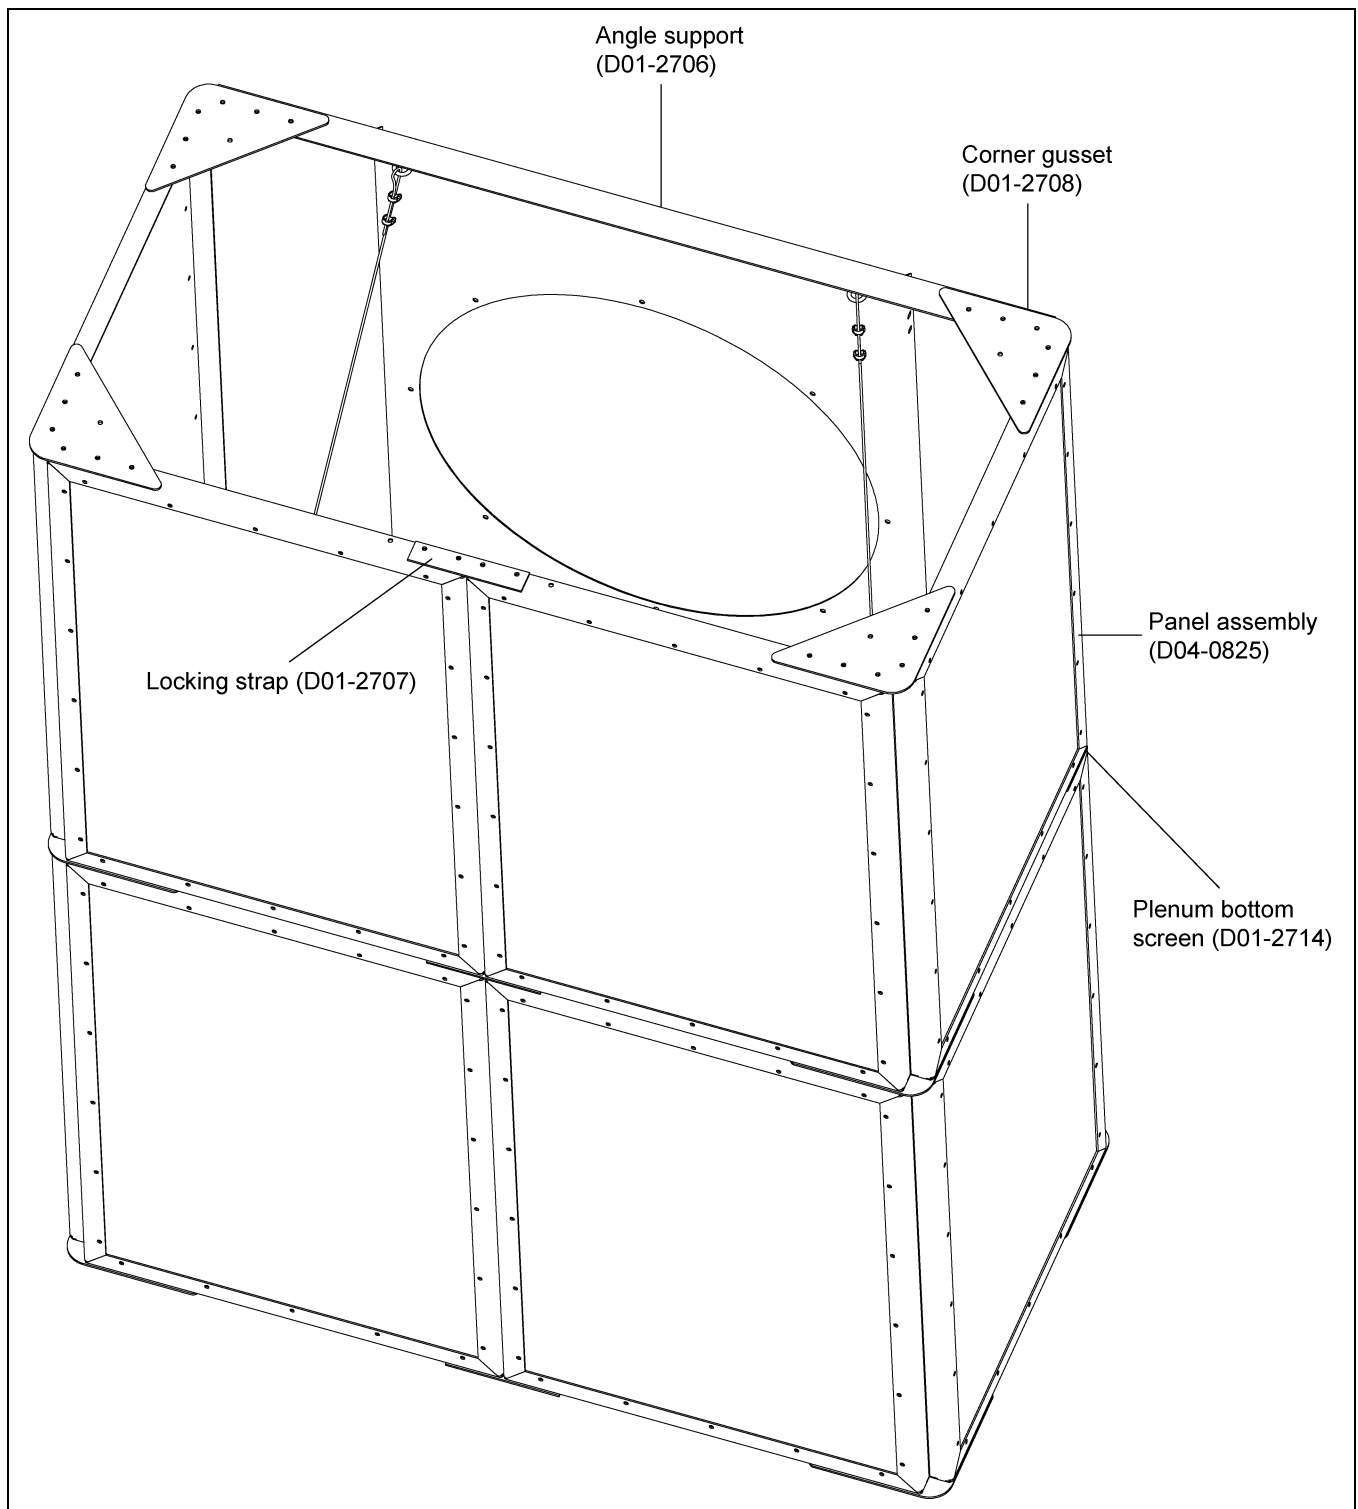

Figure 5
2. Mount both angle supports (D01-2706) to front fan support using 3/8" flange bolts and flange nuts (S-9065 and S-10028) as shown in Figure 5 on Page 4. On the top angle support the outside hole will use an eye bolt (S-7062) and two (2) hex nuts (S-7525) each. (See Figure 3 on Page 3.)